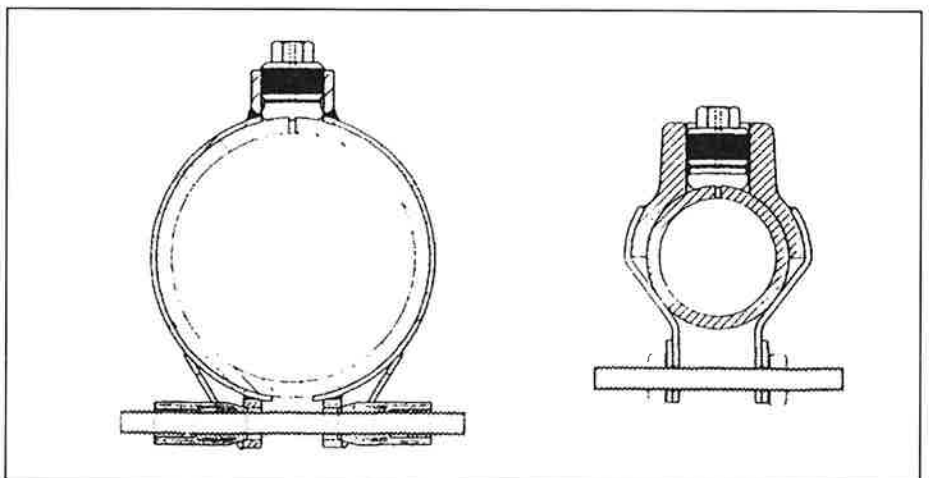

FIGURE 4.
7. Tighten the Force Screw to the torque value indicated in Chart "8". (See Figure 4)